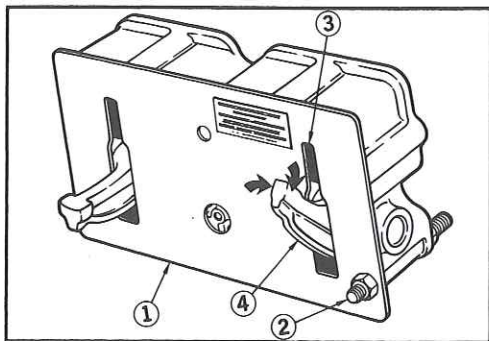

Fig. 49
1. Remove the rocker lever housing. Refer to Fig. 49.
2. Rotate the rocker levers so that the grinding gauge (1) will mount on the top side of the rocker lever housing with the name plate side out.
3. Insert each exhaust rocker lever (4) through wide slot in gauge and secure the gauge with two housing capscrews (2).
4. Lightly grind both sides of the exhaust rocker lever until the foot passes through the narrow slot (3) in the gauge.